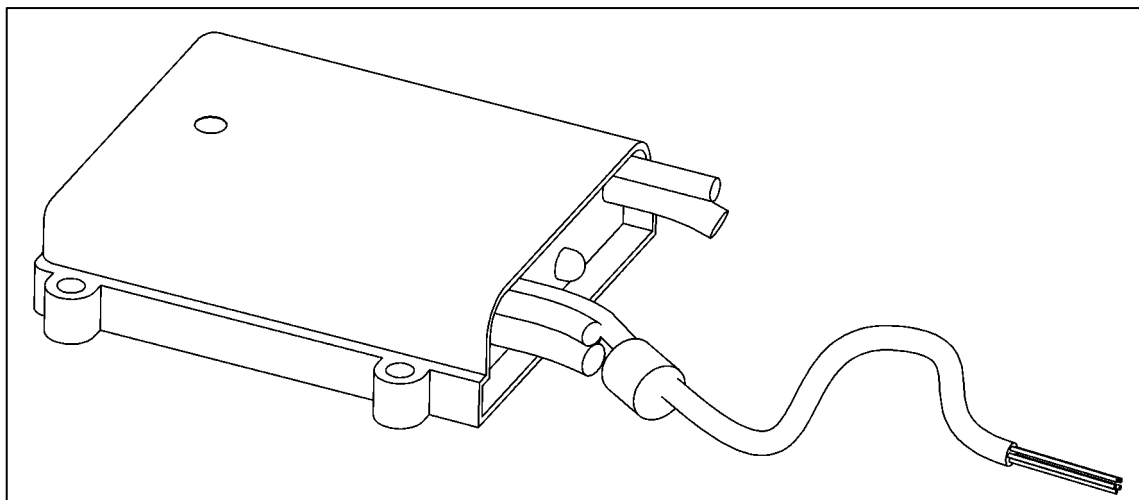

Fig. 22
- Strip the end of the control unit cable section with a red marking for connecting the handheld control (see Fig. 22).